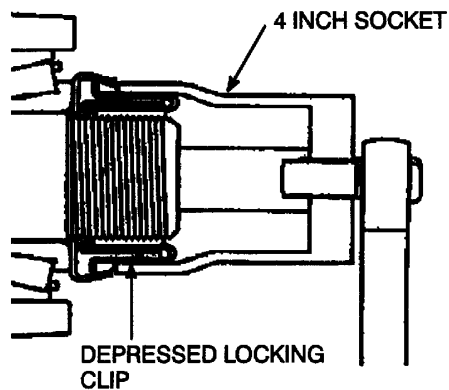

Figure 17 Depress Locking Clips
1. Place the 4 inch socket over the hex portion of the nut to depress the locking clips (Figure 17).
2. Turn nut counterclockwise to remove. When removing the Axilok, it is required to manually keep the retaining washer moving toward the end of the spindle with nut as nut is removed (Figure 17).